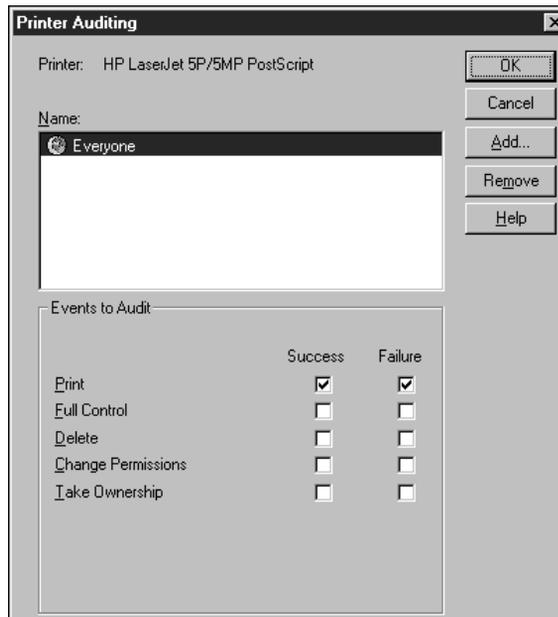

FIGURE 6-26 Configuring print events to audit
8. The user(s) and/or group(s) you added are now listed in the Name list box. Select the Success and/or Failure check boxes for the print events you want to audit. You *must* select at least one event for print auditing to occur. Figure 6-26 shows the Printer Auditing dialog box. Notice that the check boxes for Success and Failure auditing of Print events are selected for the Everyone group. Click OK.